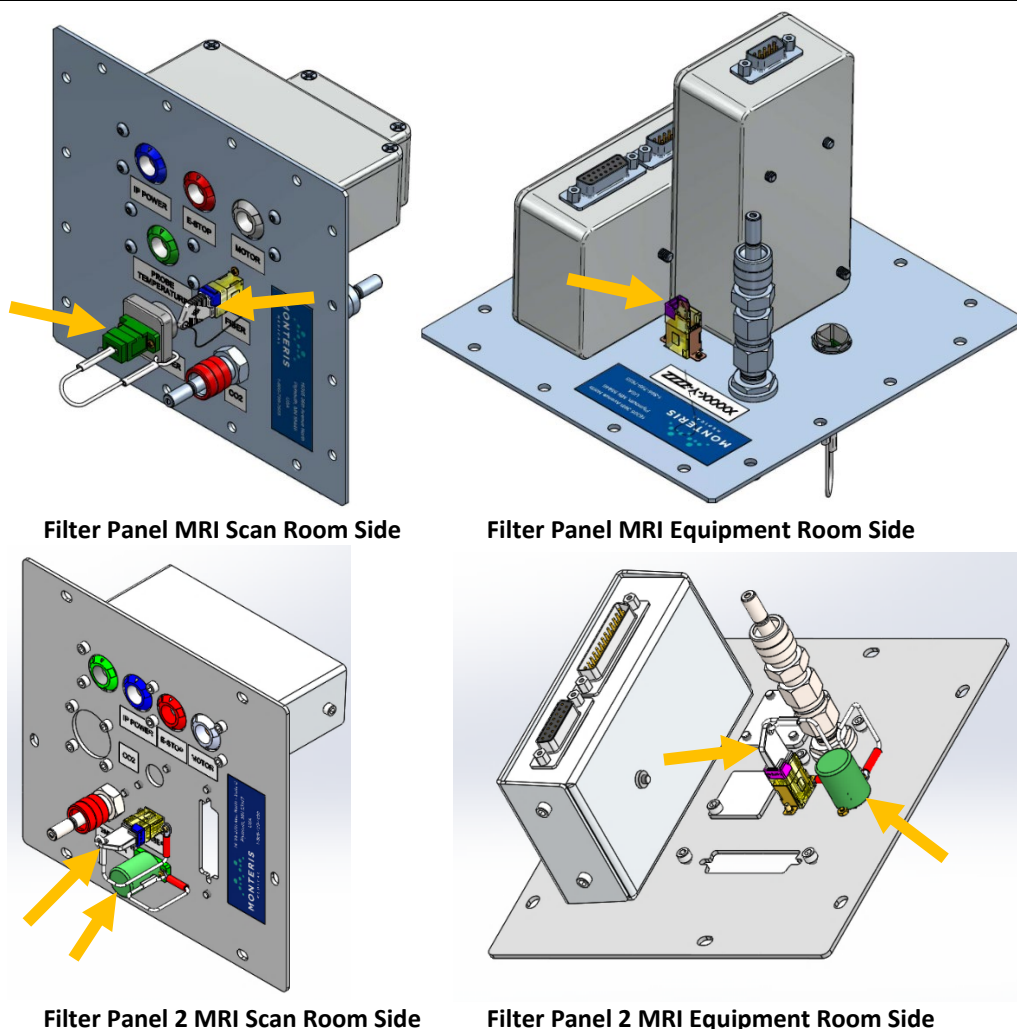

Figure 7.31 RF Filter Panel and Dust Cover Locations
The Monteris RF Filter Panel (Figure 7.31) is part of the MRI system penetration panel in the wall between the MR equipment room and scan room. The filter panel allows power and communication to the MRI conditional robotic system which drives the position of the laser delivery probe in the patient's head. All electrical connections on the filter panel are grounded to the RF shield to prevent conduction of noise into the room.
- If the installation requires the cables to be disconnected between cases, insert dust covers into the laser fiber and optical temperature sensor connectors when plugs are not inserted (see orange arrows Figure 7.31) and cover the end of the temperature sensor fiber with the protective sleeve.